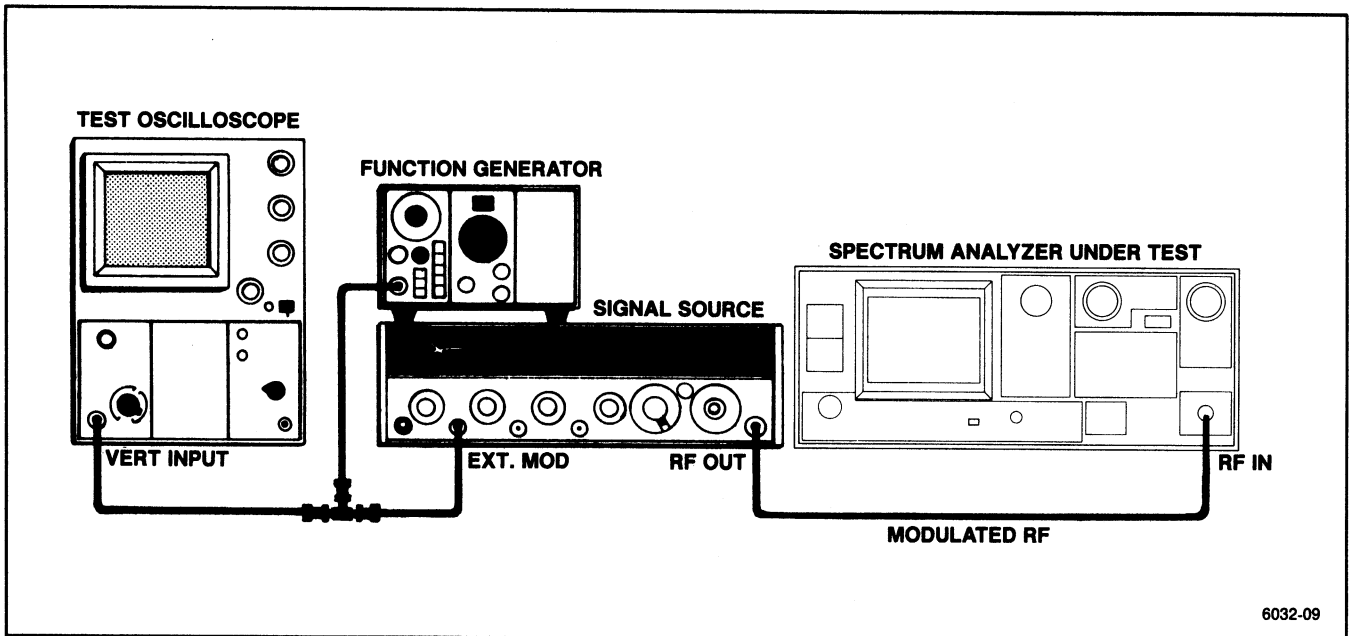

Figure 4-19. Test equipment setup for checking internal trigger characteristics.
a. Connect the test equipment as shown in Figure 4-19.